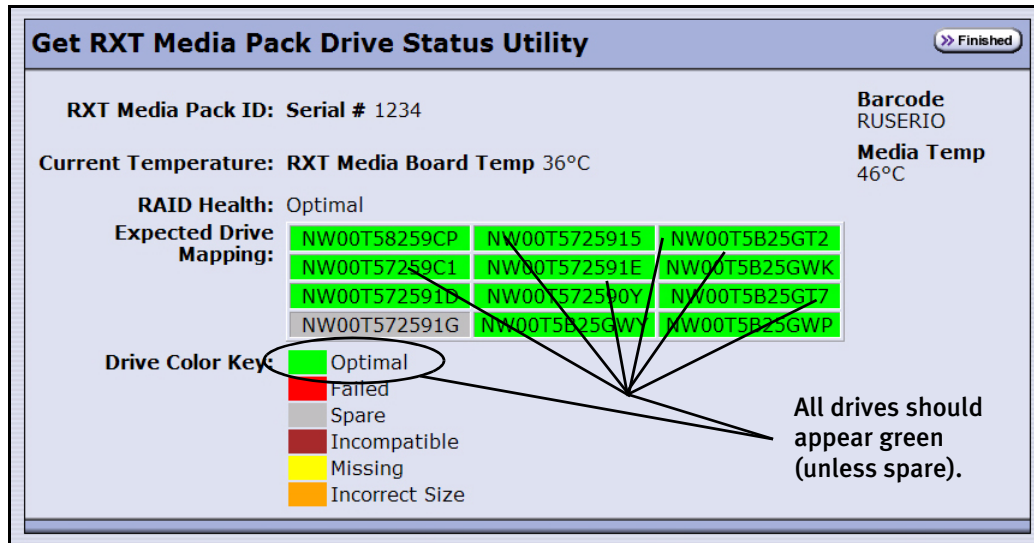

Figure 3-23 The Get RXT Media Pack Drive Status Utility screen.
2. Select **Maintenance** → **Tools** → **Get RXT Media Pack Drive Status**. The RXT media drives should report as Optimal (green), as shown in Figure 3-23.